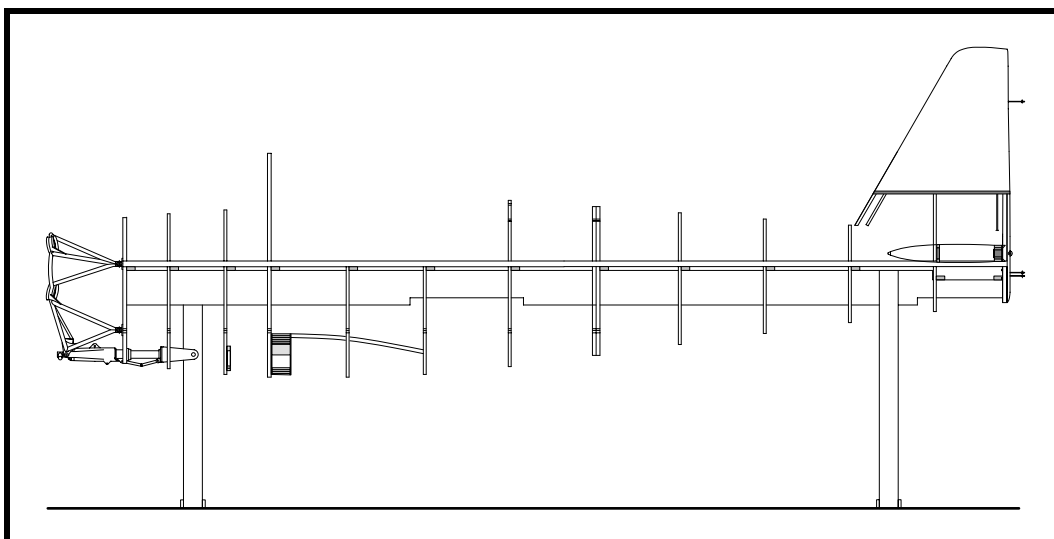

Figure 15
- ☐ Clamp the upper side longerons in position. See Figure 15. Until you are absolutely certain that everything is in the exact position, there is no need to do the final sanding for the longeron fit in the longeron cutouts. Align the frame so that the nose gear is located in the center of the nose gear bay.